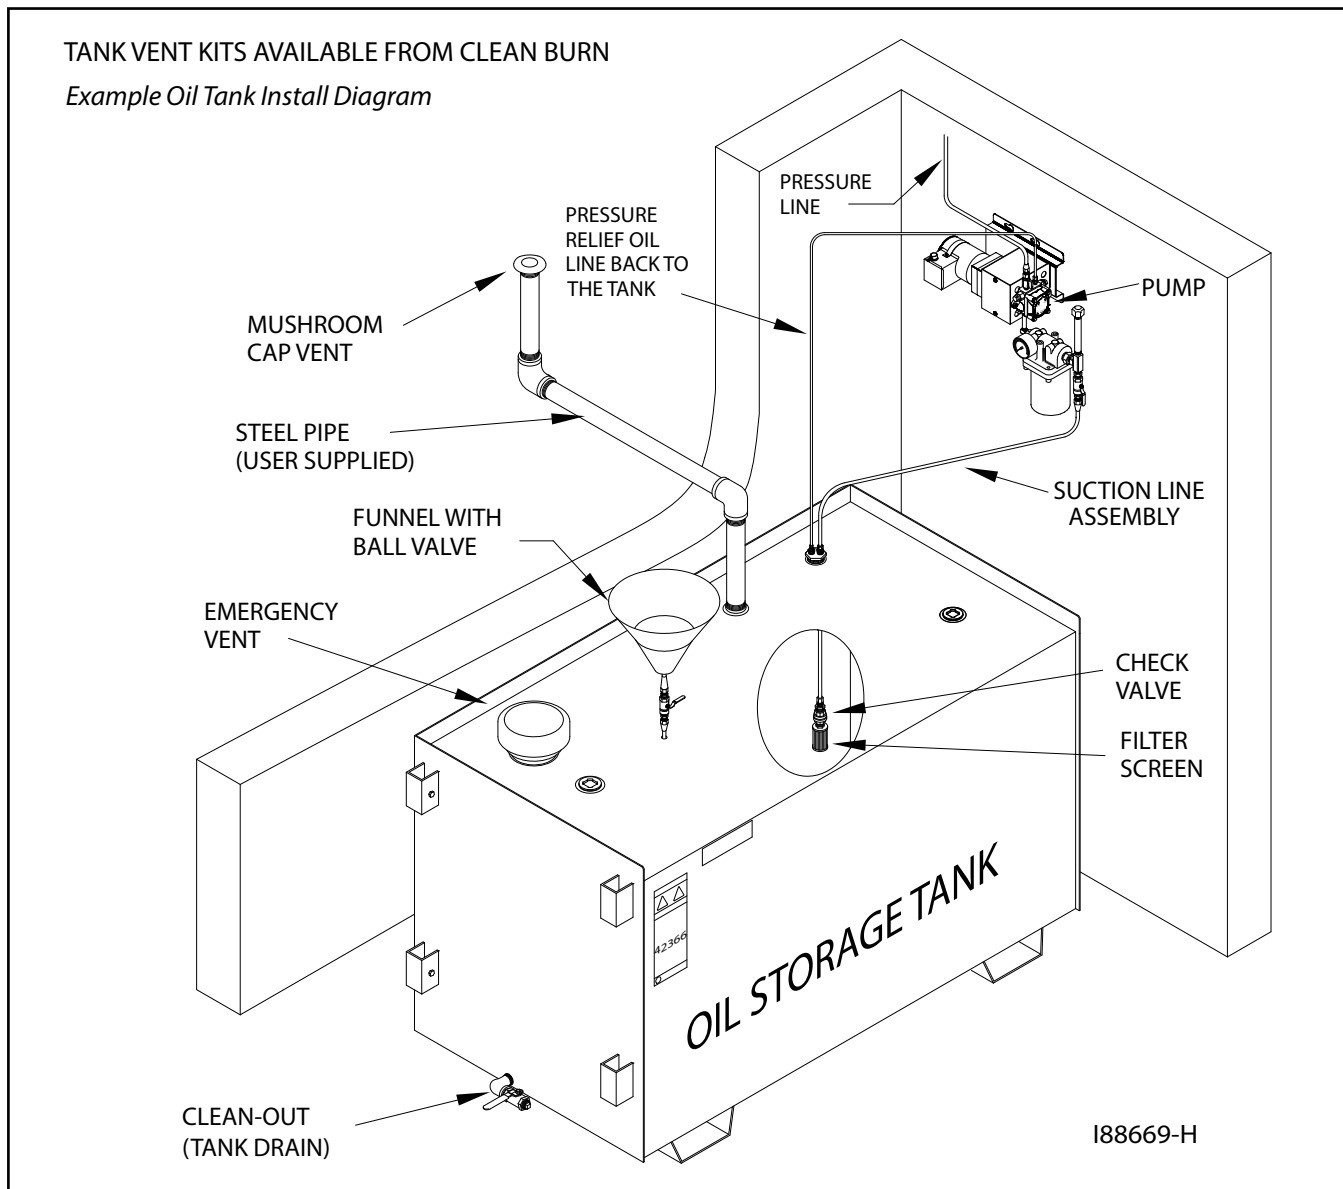

Figure 4F - Typical Metering Pump Installation with Inside Tank
Some codes require that you install a tank vent (to the outside) and an emergency vent for your tank as shown in Figure 4F. **Tank Vent Kits** are available from Clean Burn; contact your local Clean Burn dealer to order. Be sure to check your local codes for any additional tank installation requirements, and adhere to the following installation guidelines:
- Install a length of minimum 2" steel pipe (user-supplied) terminating outside with a proper vent cap as shown in Figure 4F. Consult local codes for information and requirements concerning the proper venting of oil storage tanks.
- Install an emergency vent as shown in Figure 4F. Contact your tank manufacturer for information concerning the proper emergency vent for your tank.